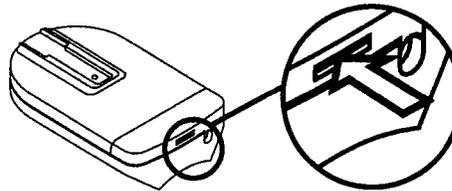

Fig. 2
- Gently push straight IN on Tab as shown  (Fig. 2)